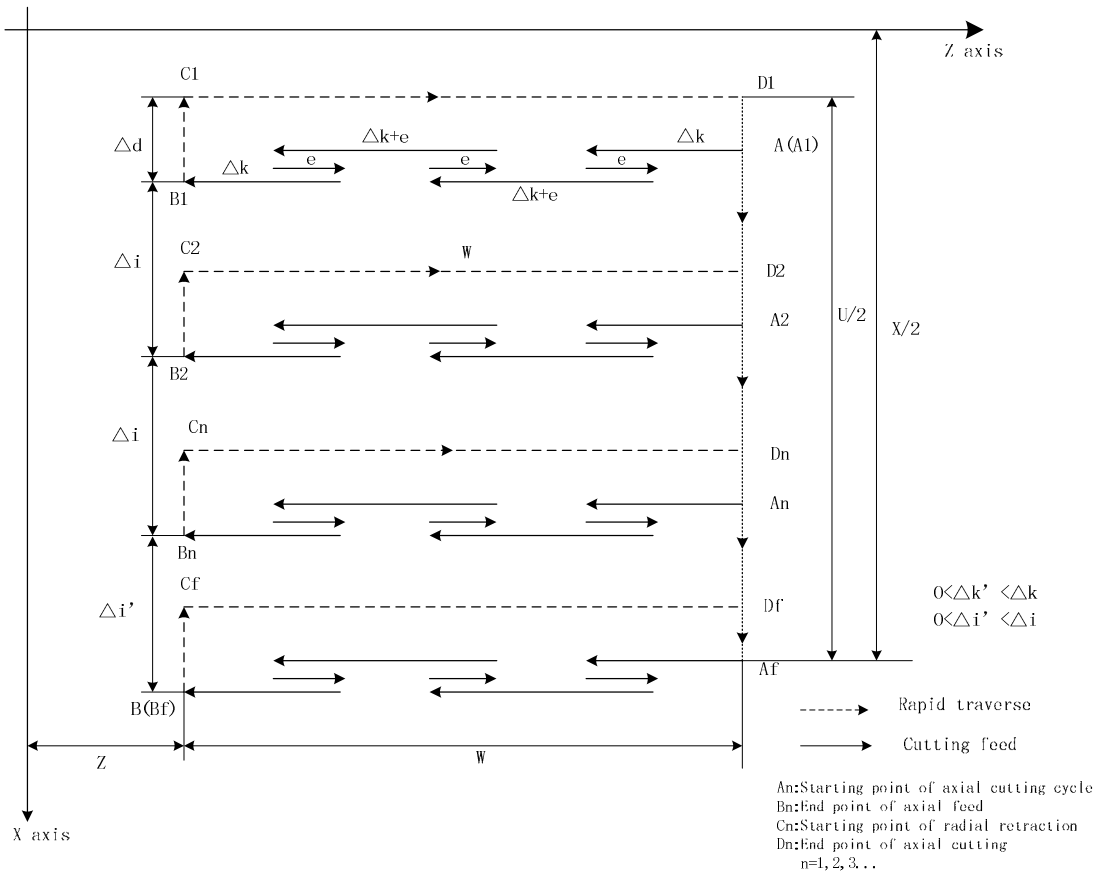

Fig. 3-34 G74 path
**P( $\Delta i$ ):** radial(X) cutting for each axial cutting cycle, range:  $0 < \Delta i \leq 9999999 \times$  least input increment (unit: least input increment, diameter value, without sign symbol).
**Q( $\Delta k$ ):** radial(Z) cutting for each axial cutting cycle, range:  $0 < \Delta k \leq 9999999 \times$  least input increment (unit: least input increment, diameter value, without sign symbol).
**R( $\Delta d$ ):** radial (X) tool retraction after cutting to end point of axial cutting, range: 0~9999999 $\times$  least input increment (unit: mm/inch, diameter value, without sign symbol).. The radial (X) tool retraction clearance is 0 when the system defaults the axial cutting end point. The system defaults the tool retraction is executed in positive direction when X(U) and P( $\Delta i$ ) are omitted.
**Execution process:** (Fig. 3-34)
- ① Axial (Z) cutting feed  $\Delta k$  from the starting point of axial cutting cycle, feed in Z negative direction when the coordinates of cutting end point is less than that of starting point in Z direction, otherwise, feed in Z positive direction;
- ② Axial (Z) rapid tool retraction e and its direction is opposite to the feed direction of ①;
- ③ X executes the cutting feed ( $\Delta k+e$ ) again, the end point of cutting feed is still in it between starting point  $A_n$  of axial cutting cycle and end point of axial tool infeed, Z executes the cutting feed ( $\Delta k+e$ ) again and execute ②; after Z executing the cutting
- feed ( $\Delta k+e$ ) again, the end point of cutting feed is on  $B_n$  or is not on it between  $A_n$  and  $B_n$  cutting feed to  $B_n$  in Z direction and then execute ④;
- ④ Radial(X) rapid tool retraction  $\Delta d$  to  $C_n$ , when X coordinate of  $B_f$  (cutting end point) is less than that of A (starting point), retract tool in X positive, otherwise, retract tool in X negative direction;
- ⑤ Axial(Z axial) rapid retract tool to  $D_n$ , No. n axial cutting cycle is completed. If the current axial cutting cycle is not the last one, execute ⑥; if it is the previous one before the last axial cutting cycle, execute ⑦;
- ⑥ Radial(X axial)rapid tool infeed, and it direction is opposite to ④ retract tool. If the end point of tool infeed is still on it between A and  $A_f$  (starting point of last axial cutting cycle) after X executes the tool infeed ( $\Delta d+\Delta i$ ), i.e.  $D_n \rightarrow A_{n+1}$  and then execute ① (start the next axial cutting cycle); if X end point of tool infeed is not on it between  $D_n$  and  $A_f$  after tool infeed ( $\Delta d+\Delta i$ ), rapidly traverse to  $A_f$  and execute ① to start the first axial cutting cycle;
- ⑦ X rapidly traverse to return to A, and G74 is completed.